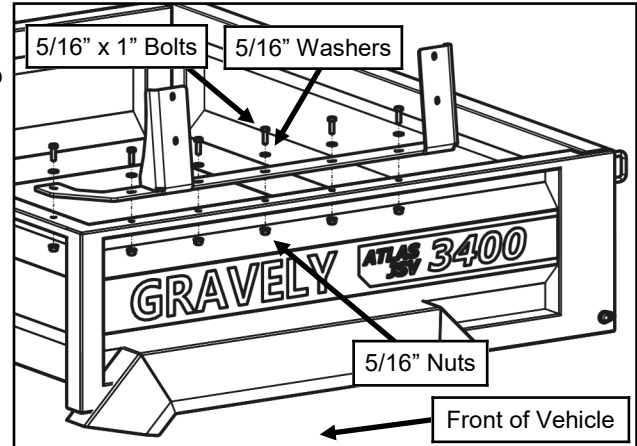
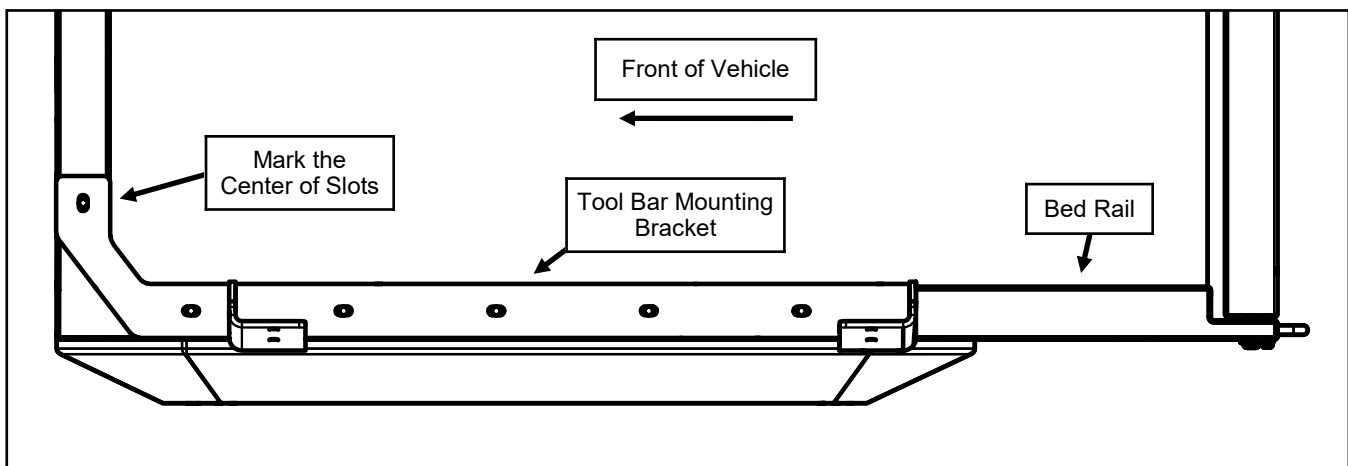

Fig. 17; Tool Bar Mounting Hardware
Fig. 13; Top View of Bed - Tool Bar Mounting Bracket Orientation on Gravelly Vehicle
1. Position the left side tool bar mounting bracket on top of the left side bed rail centering it both left to right and front to rear and clamp in place. See figure 13 below.
2. Using the tool bar mounting bracket as a template, mark the center of the (6) slots.
5. Fasten the left side tool bar mounting bracket using the (6) supplied 5/16" x 1" bolts, (6) 5/16" washers and (6) 5/16" flange nuts. See figure 17.